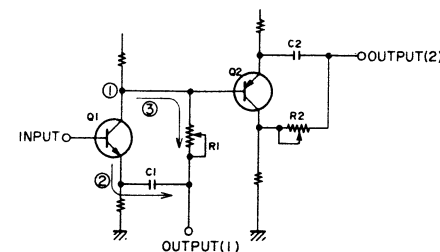
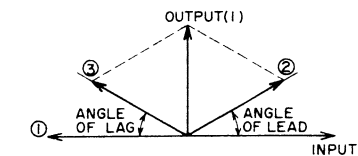

Fig. 20
Fig. 21
As can be seen from Fig. 20, when the reverse of the input signal ① is passed through an integration circuit consisting of  $R_1$  and  $C_1$ , phase lag occurs as illustrated at ③ in Fig. 21. On the other hand, the input signal is passed through the EF circuit and then through a differential circuit consisting of  $C_1$  and  $R_1$ , resulting in the signal phase as illustrated at ②. Thus, the resultant output is as shown in Fig. 21; i.e., the signal that has a phase lead of  $90^\circ$  over the input is obtained. In the similar manner, for output ②, the signal which has a phase lag of  $90^\circ$  with reference to the input is obtained.